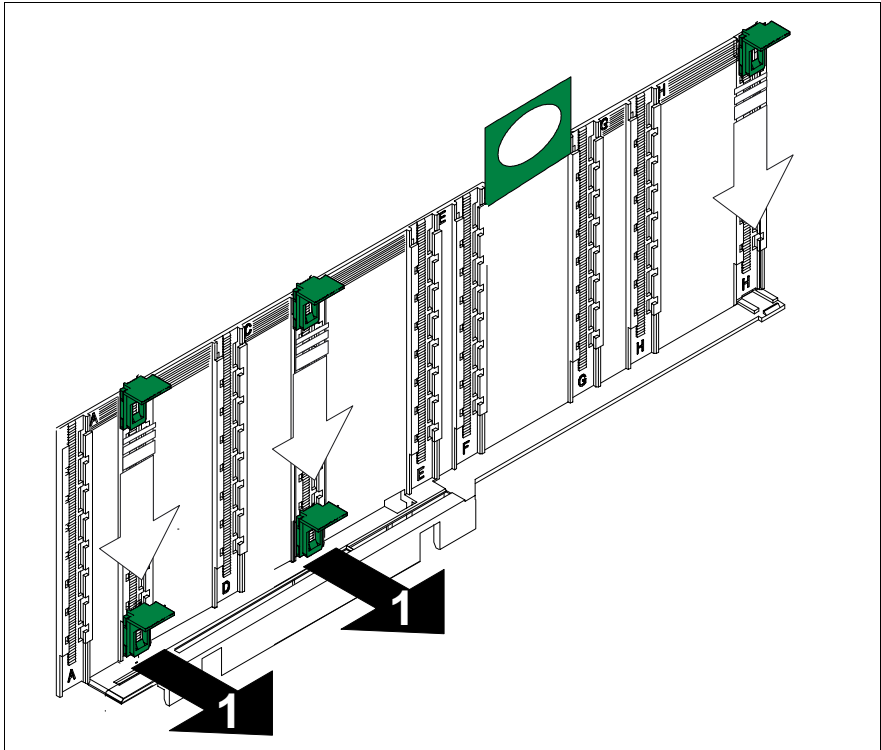

Figure 35: Removing the snap-fits from the pull-out aid
- ▶ Slide the green snap-fits downwards until they are released from the pull-out aid (see figure 35 on page 93) and keep them.